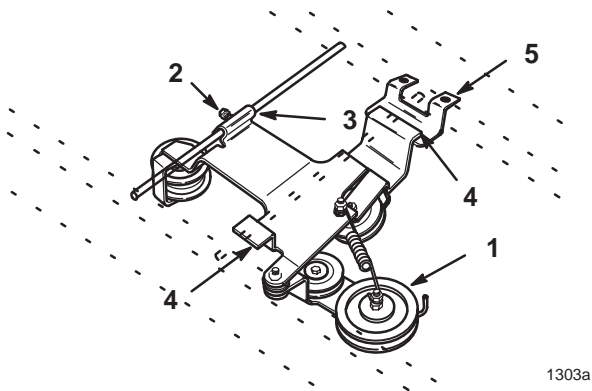

Figure 20
3. Rotate tiller drive pulley and slide belt out of groove (Fig. 20).
4. Loosen jam nut and bolt on idler assembly (Fig. 20). Unhook idler assembly from tractor lift shaft and slide to clear tabs at brackets to remove (Fig. 20).